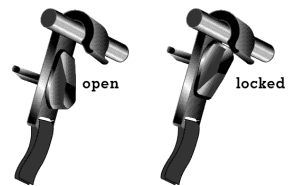

Figure 4: Cam-Loc™
Clips™, following the seam along the path of the pole, between points C and D. Now, insert the metal tips of the shorter "rear pole" into the grommets at points E and F. Attach the Cam-Locs at points K and L and Swift Clips to this pole in the same manner as the front pole. Once all the clips are attached to both poles you may engage the Cam-Locs by turning the key 180° until they lock completely onto the pole. When the Cam-Loc is engaged the key should be horizontal (Figure 4).